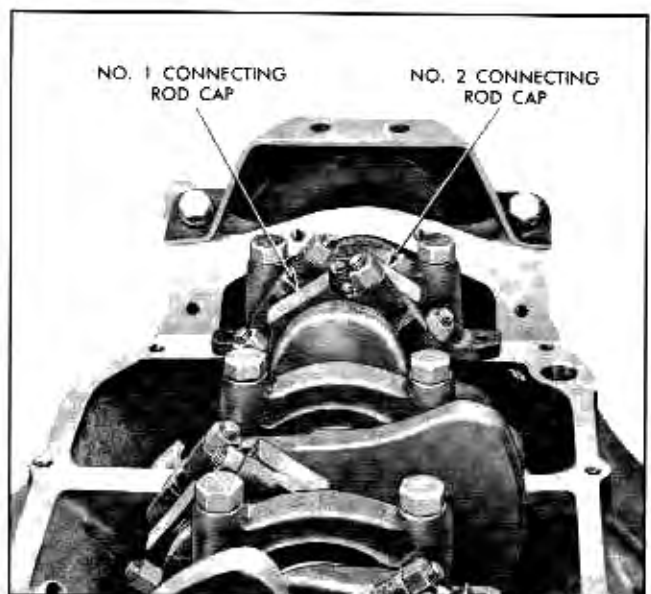

Fig. 6-36 Crankshaft Positioned for Removal of No. 1 and 2 Connecting Rod Caps
4. Rotate crankshaft so crank pin carrying assembly to be replaced projects straight downward (Fig. 6-36).
a. Turn crankshaft so that two opposite pistons are near bottom of stroke (Fig. 6-36). This will put crankpin on center line of block and expose rod nuts most advantageously. NOTE: Crankshaft can be turned by using a $1\frac{5}{16}$ " socket and handle on harmonic balancer attaching screw.